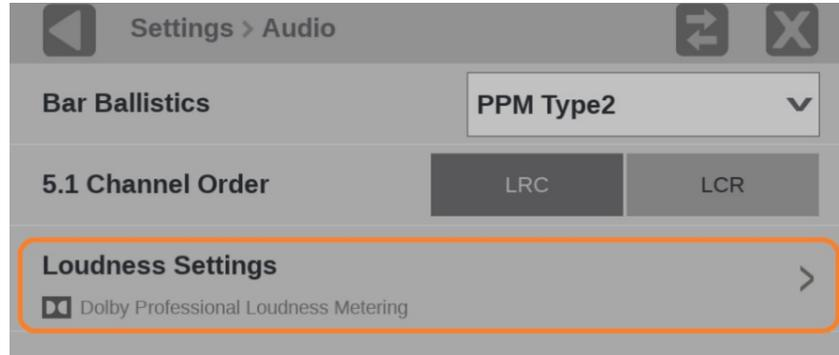

Figure 49: Audio submenu with the Loudness Settings marked
3. Select **Loudness Settings**. (See Figure 49.)